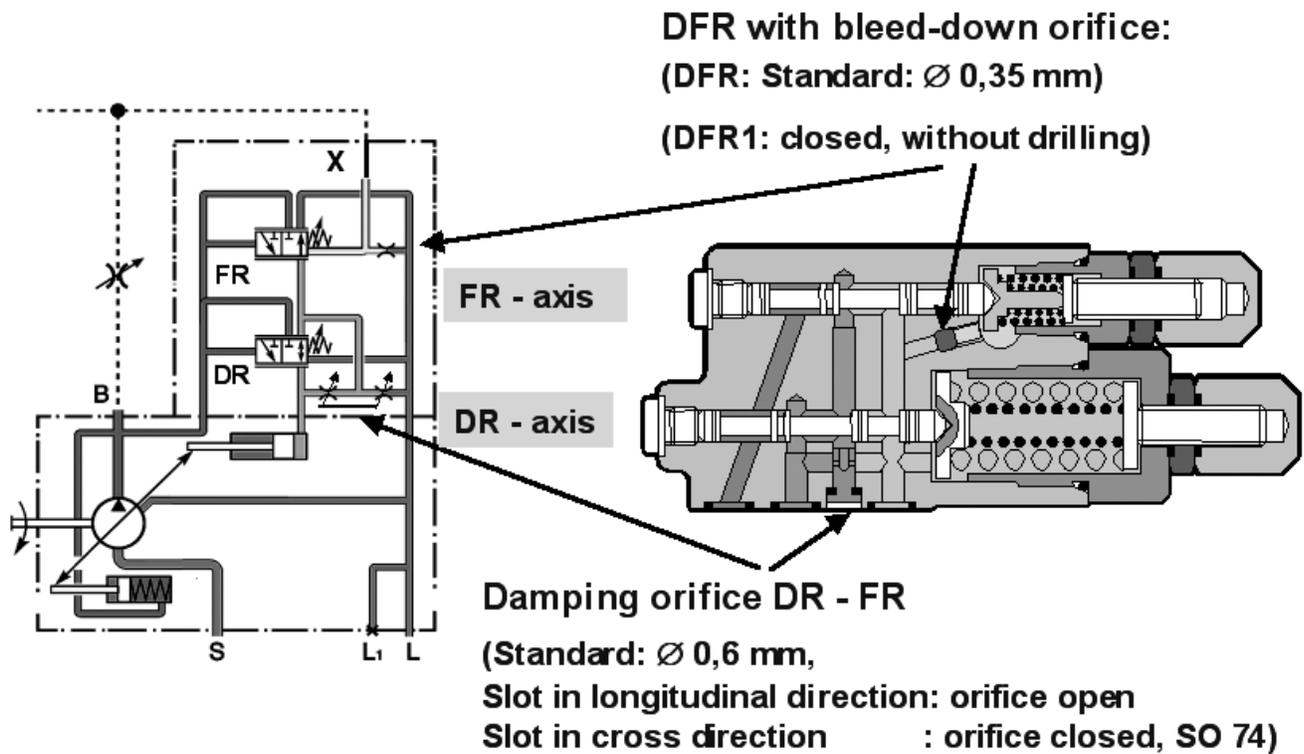

Figure 9
6. Locate allen head 2mm (orifice) inside housing (see figure 9, next page)